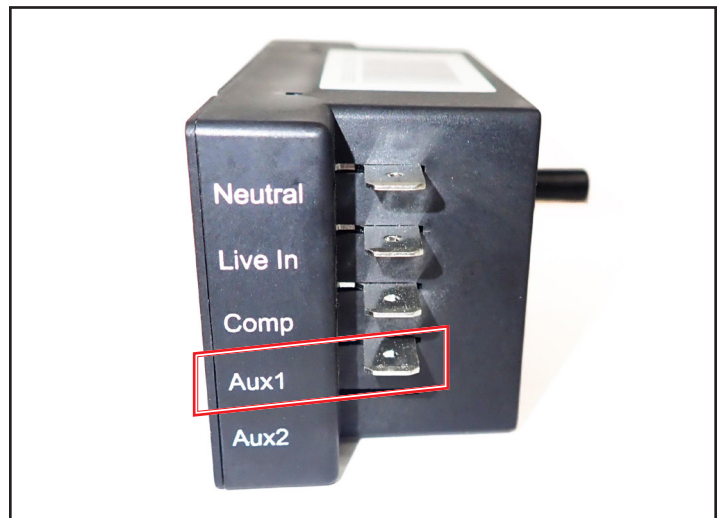

Fig. 3. Aux1 terminal of the replacement electronic temperature control.
8. Connect the **black** wire to the temperature control **Aux1** terminal. See fig. 3.